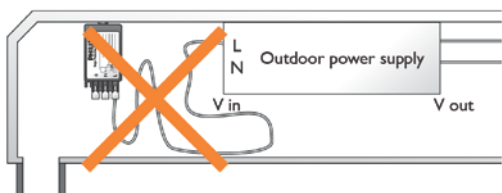

Figure 12. Incorrect wiring example 4
4. Unnecessary long wiring (Figure 12)